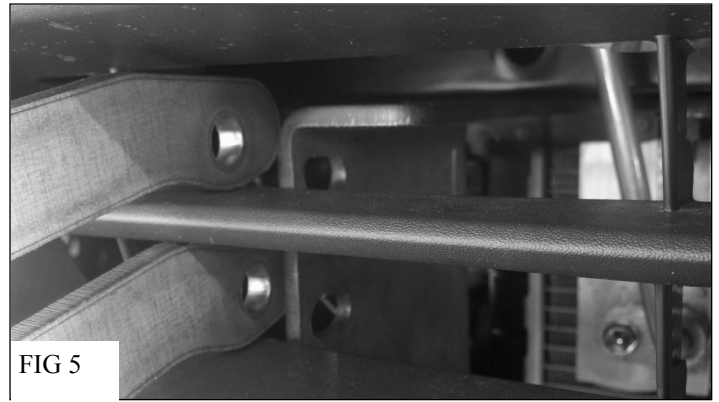

FIG 5
7. Using the supplied M8 hardware install the light bar by passing the mounting forks through the lower grille. It is easiest to install the bolts by reaching around the outside of the bumper support. Do not fully tighten at this time. (fig 5)